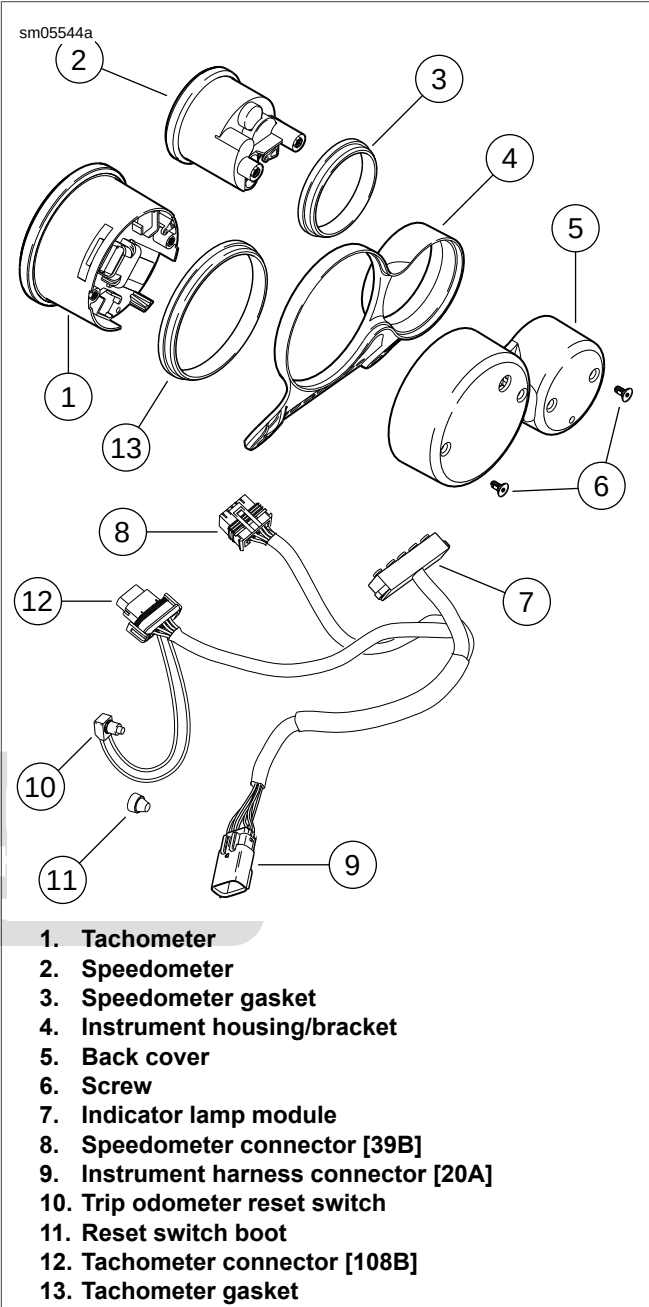

Figure 6-7. Instruments: XR 1200X
2. See Figure 6-7. Remove reset switch boot (11).
3. Remove screws (6) and back cover (5).
4. Disconnect speedometer connector [39B] (8).
5. Push out the speedometer (2) with gasket (3).
6. Inspect gasket (3), speedometer connector [39B] (8), and wiring. Repair or replace as required.
1. See Figure 6-7. Install gasket (3) on speedometer (2).
2. Orient face upright and press speedometer (2) into instrument housing/bracket (4).
3. Install speedometer connector [39B] (8).
4. Attach trip odometer reset switch (10) into squared boss on back cover (5) and secure with reset switch boot (11).
5. Place back cover over speedometer and tachometer while positioning harness to avoid damage. Rotate speedometer and tachometer as needed to align mounting holes. Install screws (6). Tighten to 12-18 in-lbs (1.4-2.0 Nm).
2. See Figure 6-7. Remove reset switch boot (11) from back cover (5).
4. Remove tachometer connector [108B] (12).
9. Install tachometer connector [108B] (12).
10. Position reset switch in squared boss on back cover (5). Secure with a **new** reset switch boot (11).
11. Place back cover over speedometer and tachometer while positioning harness to avoid damage. Align mounting holes. Install screws (6). Tighten to 12-18 **in-lbs** (1.4-2.0 Nm).
4. Open latches on each side of tachometer connector [108B] (12) and separate connector halves.
5. Push out the tachometer with gasket (13).
2. See Figure 6-7. Install gasket (13) on tachometer (1).
3. Orient face upright and press tachometer (1) into instrument housing/bracket (4).
4. Attach tachometer connector [108B] (12) to tachometer.
5. Attach trip odometer reset switch (10) into squared boss on back cover (5) and secure with reset switch boot (11).
6. Place back cover over speedometer and tachometer while positioning harness to avoid damage. Align mounting holes. Install screws (6). Tighten to 12-18 **in-lbs** (1.4-2.0 Nm).